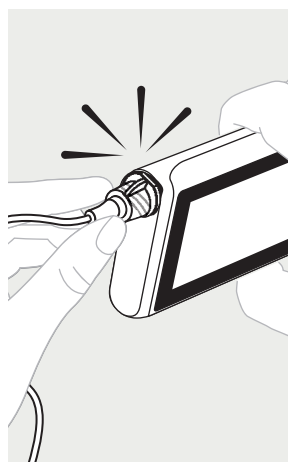

Figure 63
- You will hear a click when the Luer adapter attaches to the cartridge (see Figure 63).